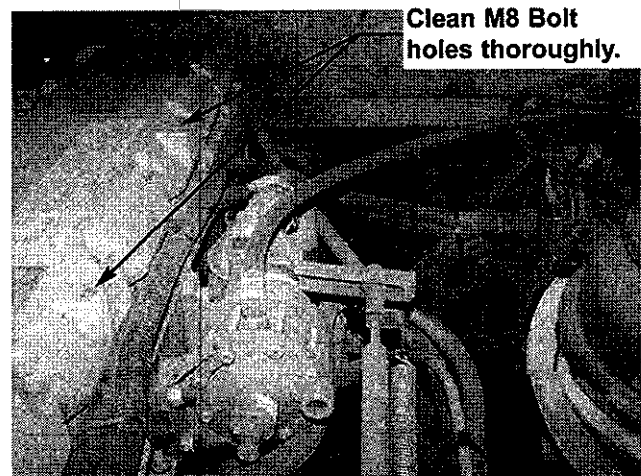

Figure 3
9. Locate and clean the two M8 bolt holes on the top right side of the valve cover as shown in **Figure 3**. Using brake cleaner and a screwdriver, clean the bolt holes thoroughly of all debris before proceeding.